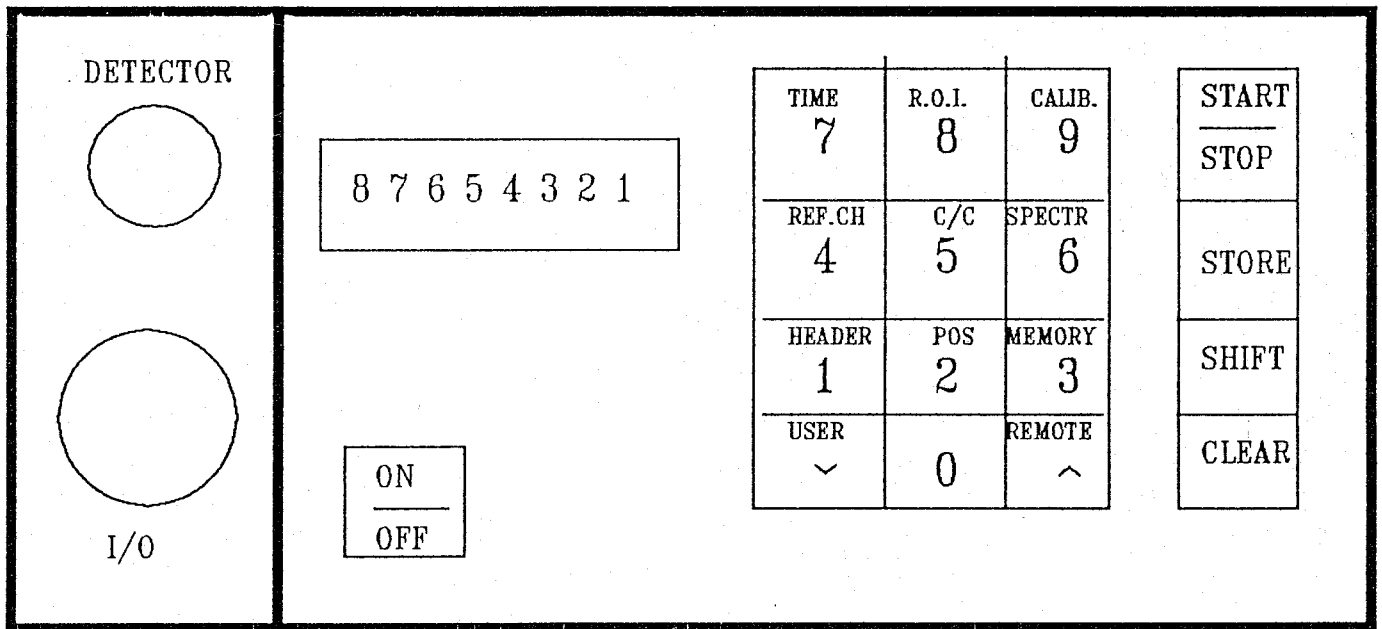

FIG. 1
3.3 Operating Controls - Fig.1